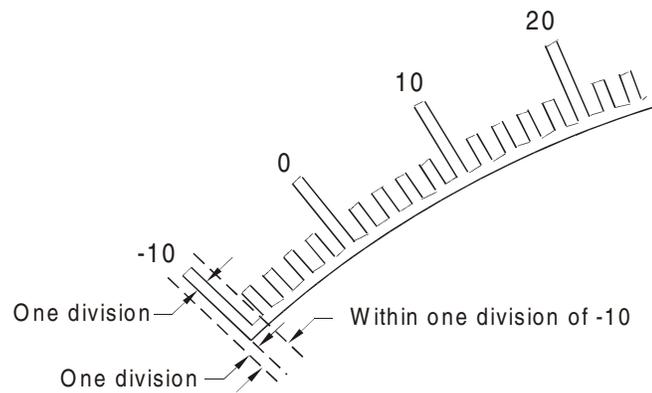

Figure 3-1.
- j. Verify that the PATIENT PRESSURE meter needle is within one division (see Fig. 3-1) of -10 cmH₂O/hPa. If it is not, then remove the meter adjustment hole plug, if provided, and using a screwdriver, verify that the meter needle can be adjusted above and below -10. Set the meter needle at -10.